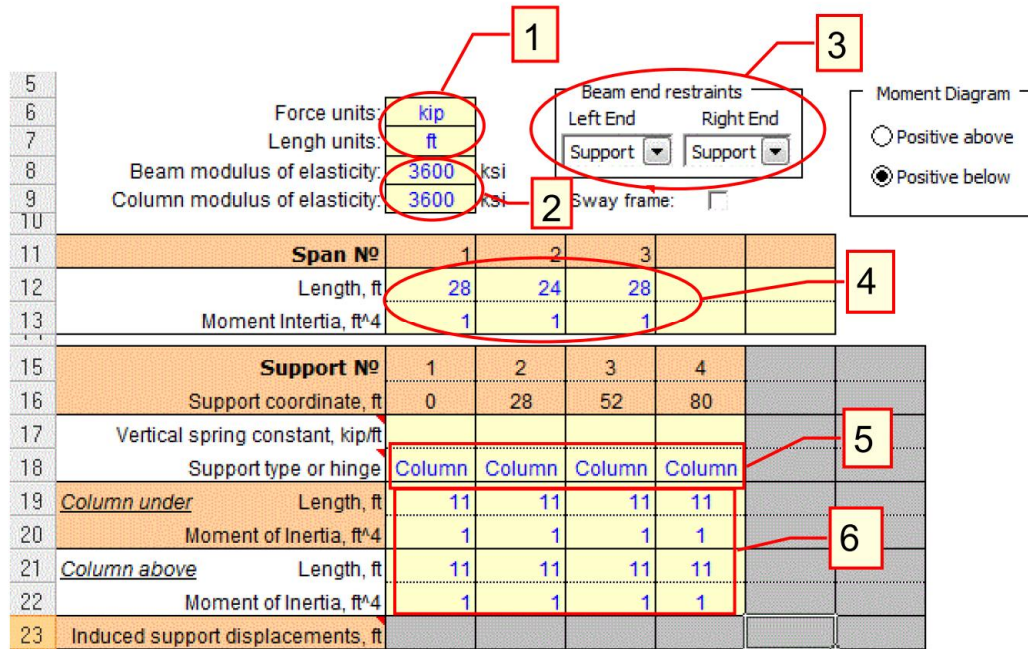

FIGURE 1. WORKSHEET INPUT: SPAN AND SUPPORT DATA TABLES
- Step 1. Enter beam geometry (refer to Figure 1)